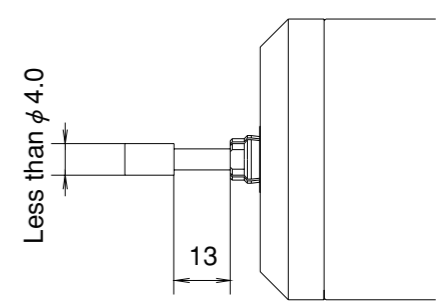

Fig.12
- Do not exceed 13mm overhang for mounted grindstones. In case overhang must exceed 13mm reduce the motor speed in accordance with Fig.12.